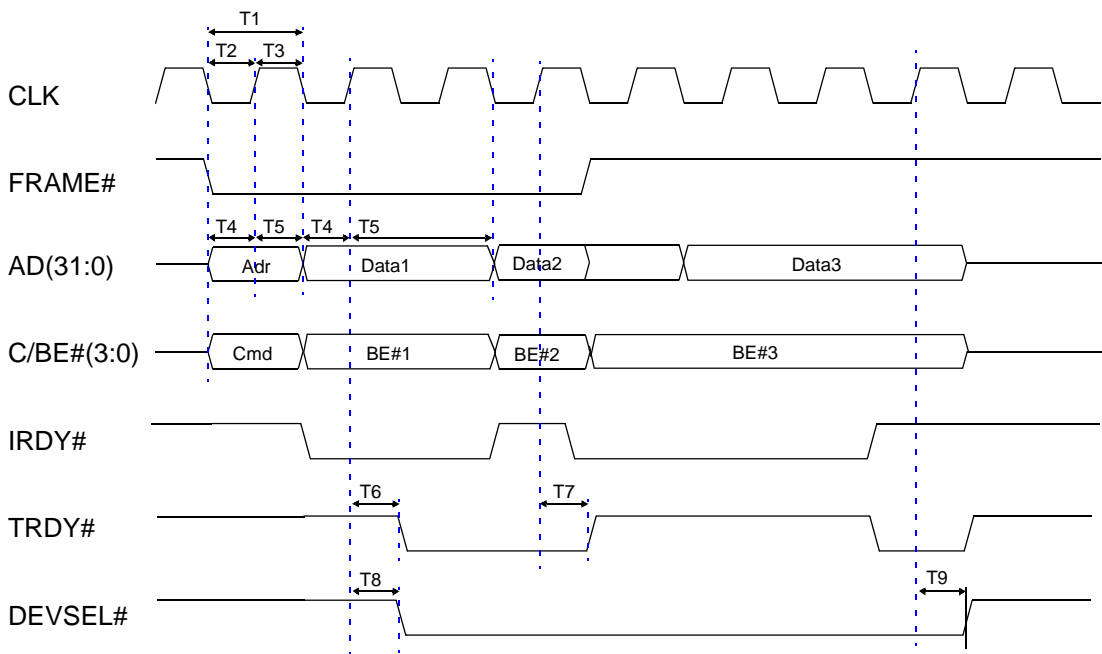

Figure 5-3. Burst Access Timing - PCI Bus
- Burst Access Timing, see Figure 5-3.